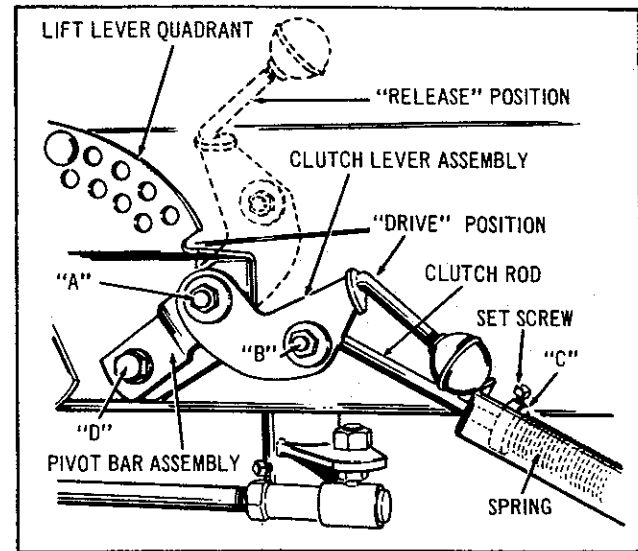

FIG. 18
4. Remove Hex. Cap Screw "D" from frame of tractor and mount bracket in place on Lift Lever Quadrant. See Figure 18. Position the Pivot Bar Assembly flush against bottom of Lift Quadrant and re-install Hex. Cap Screw and tighten securely. Check alignment of Drive Pulley on Bevel Gear Shaft, driven pulley of Power Take-Off, and Idler Pulley, and adjust Driving Pulley if necessary.
Operation of the Power Take-Off is controlled by movement of the Clutch Lever Assembly. See Figure 18. When the Clutch Lever is in the forward raised position, the Clutch Rod releases the tension holding the Idler Pulley against the Drive Belt, and power will not be transmitted to the driven pulley of the Power Take-Off Assembly. When the Clutch Lever is in the back, depressed position, the Clutch Rod applies tension to the Idler Pulley and as the Idler Pulley takes up the slack in the Drive Belt, power is transmitted from the Drive Pulley on Bevel Gear Box Shaft to the driven pulley of the Power Take-Off. Figure 18 shows Clutch Lever in Drive position.
At points "A" and "B" of Figure 18, check tightness of Hex. Nut to be sure that Clutch Lever Assembly and Clutch Rod are free to pivot without binding.
Place Clutch Lever in "Drive" position and observe clearance between collar "C" (Figure 18) and end of bracket. When implement is attached to tractor, this clearance should normally be approximately 3/4"; at this setting the Idler Pulley should be snugly against the Drive Belt. If additional tension is required, release Clutch Lever and loosen Set Screw on Collar and Slide Collar farther back on Clutch Rod. Retighten Set Screw in Collar and put Clutch Lever in Drive position. Recheck clearance. The tension of the Idler Pulley against the Drive Belt must be sufficient to operate whichever tractor attachment is being used. Any additional tension is unnecessary and will only cause premature failure of Belts and Idler Pulley bearings.